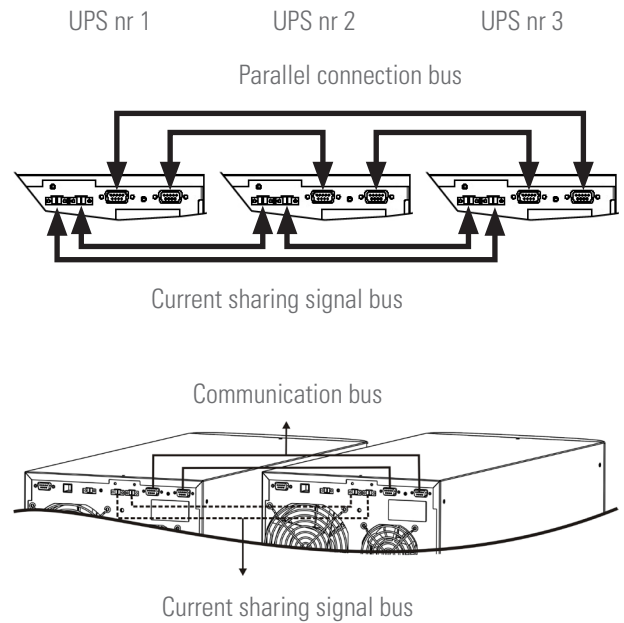

Fig. 22. Connection of the communication bus and current sharing signal.
Fig. 22 shows an installation of two equipments in parallel. For three UPSs proceed in the same way to close the communication bus and current sharing circuits.
- **Bus connection of the signal of current.** Joint the equipments, by using the cable bundle with connectors in both ends and connecting them in the connectors of both correlative equipments as Fig. 22 shows. Finally, close the bus loop between the last and first equipment.